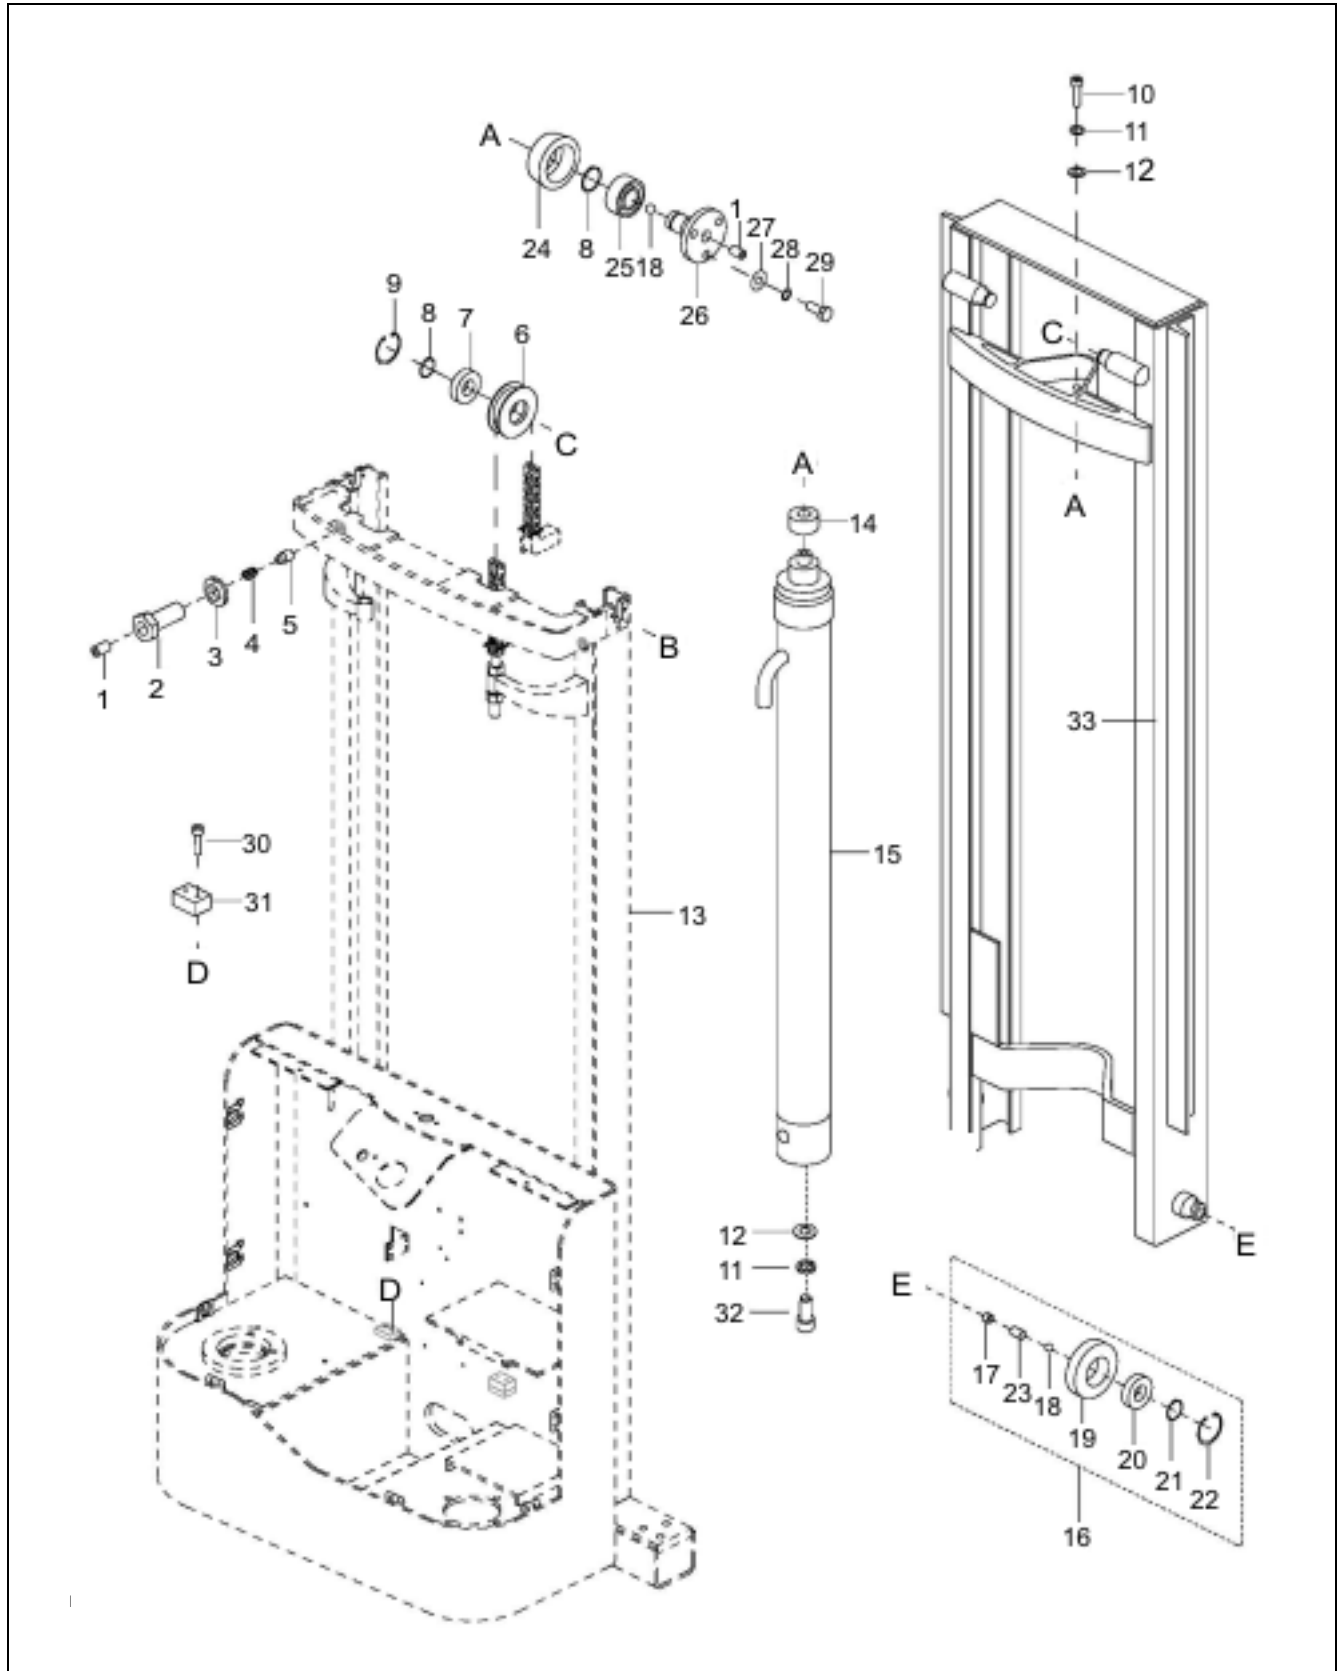

Figure 9-6 Elevation System (Telescopic)
2. Install screw (32, Figure 9-6), lock washer (11) and flat washer (12) to secure the bottom of the cylinder.
3. Install screw (10), lock washer (11) and flat washer (12) to secure the top of the cylinder.
4. Reconnect the hose (14) to the bottom of lift cylinder.
5. Reconnect the hose (10) to the top of lift cylinder.